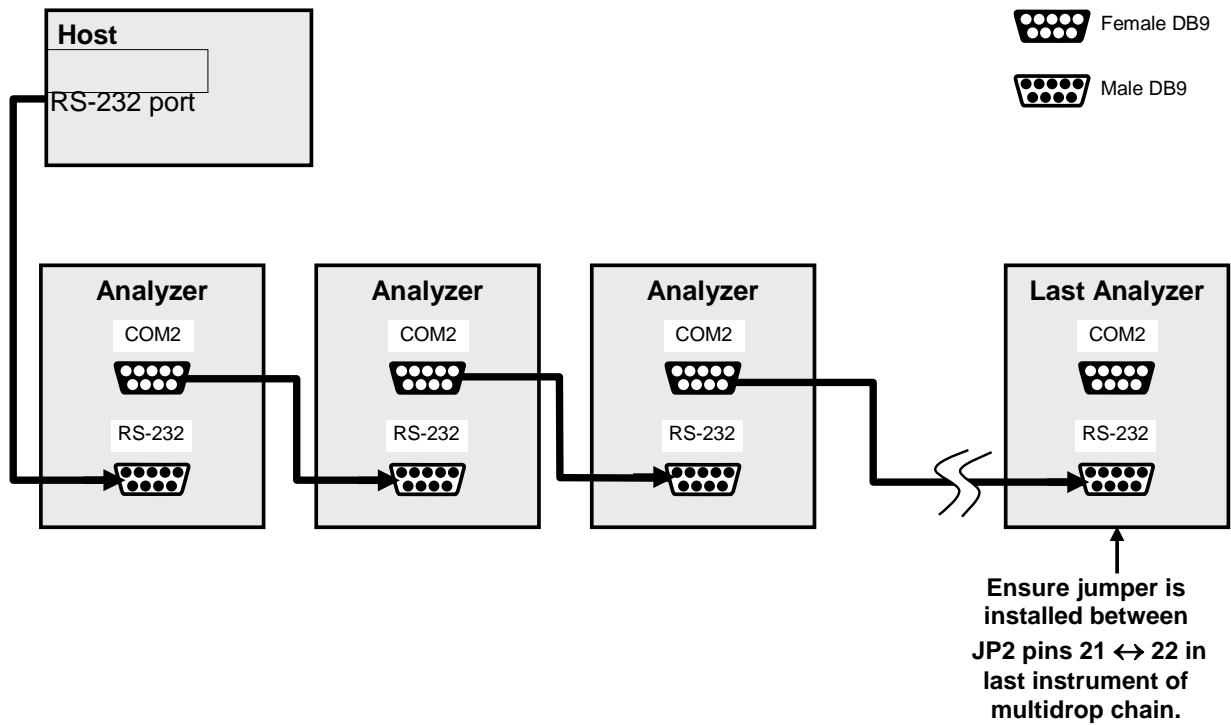

Figure 8-4: RS-232-Multidrop PCA Host/Analyzer Interconnect Diagram
4. Referring to Figure 8-4 use straight-through DB9 male-DB9 female cables to interconnect the host RS232 port to the first analyzer's RS232 port; then from the first analyzer's COM2 port to the second analyzer's RS232 port; from the second analyzer's COM2 port to the third analyzer's RS232 port, etc., connecting in this fashion up to eight analyzers, subject to the distance limitations of the RS-232 standard.